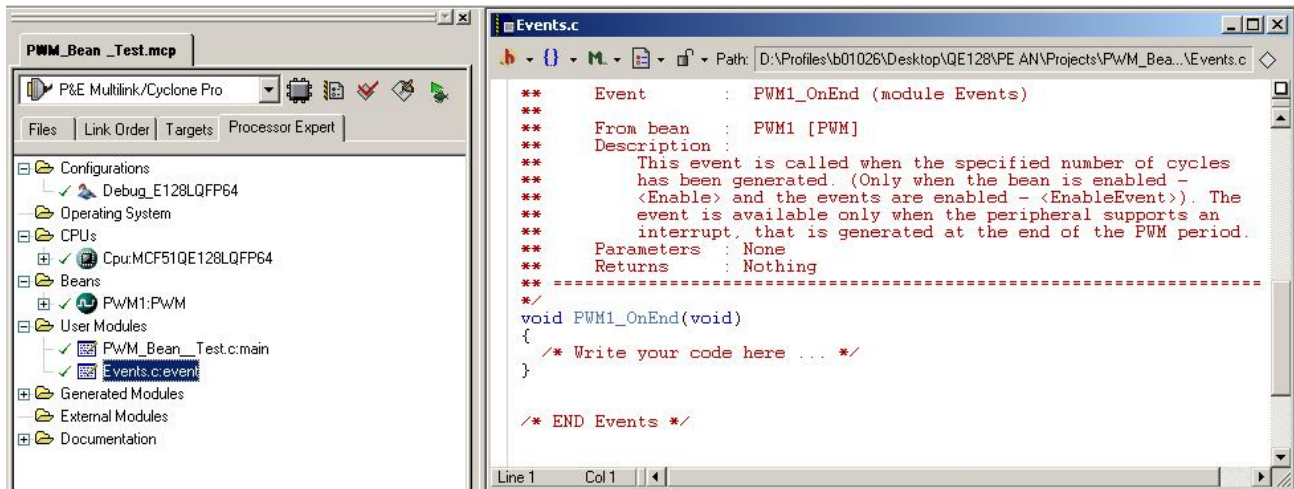

Figure 39. Events.c file for PWM Bean
8. Edit the function executed on the OnEnd event. In the file Events.c there is a function named PWM1_OnEnd. This file is in the User Modules folder on the left panel. The code to be executed must be placed inside the PWM1_OnEnd function (Figure 39).